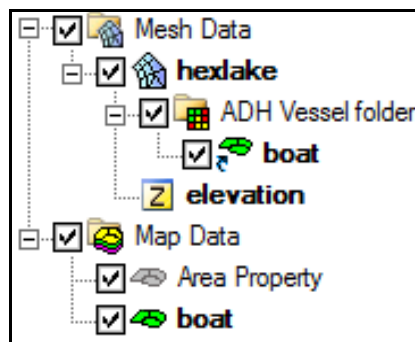

Figure 1 Project Explorer with “boat” link under mesh module
7. Drag the boat coverage onto the “hexlake” mesh. A link will be added under a new “ADH Vessel folder” under the mesh (see Figure 1).